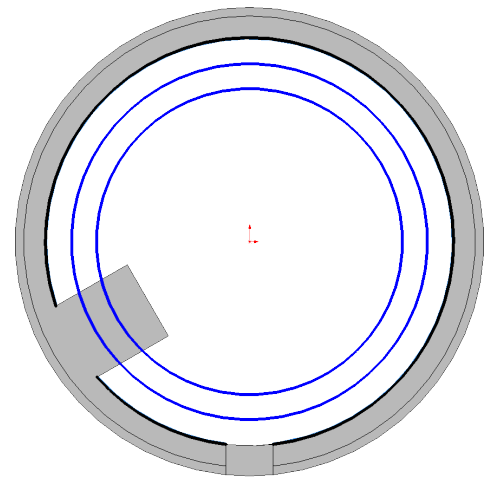
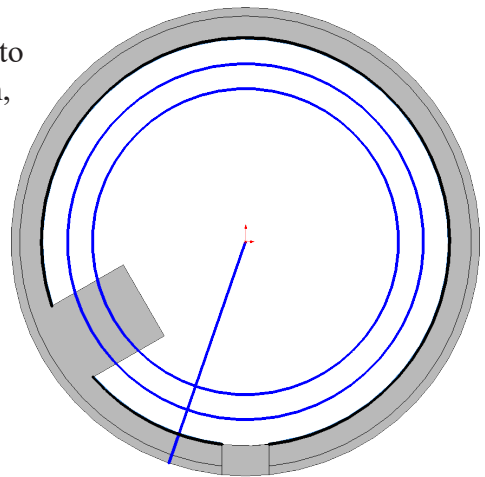

Fig. 83
Fig. 84
Step 5. Click **Circle**  (S) on the Sketch toolbar.
Step 6. Sketch **two circles** starting at the Origin , **Fig. 83**.
Step 7. Click **Line**  (L) on the Sketch toolbar.
Step 8. Sketch **radius from Origin**  to **outside circular edge of cylinder** at an angle, **Fig. 84**. To terminate chain, double click back on the line you have just sketched.